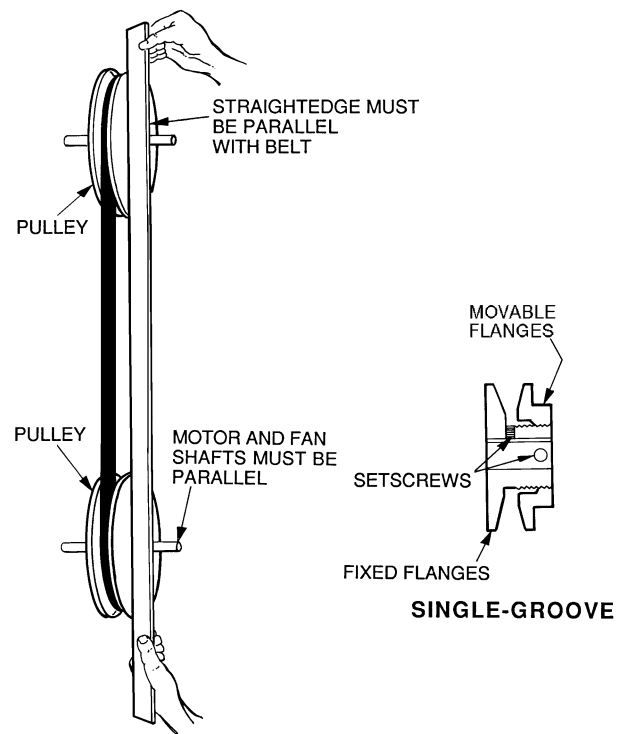

Fig. 33 — Evaporator-Fan Alignment and Adjustment
3. Loosen movable-pulley flange setscrew (see Fig. 33).